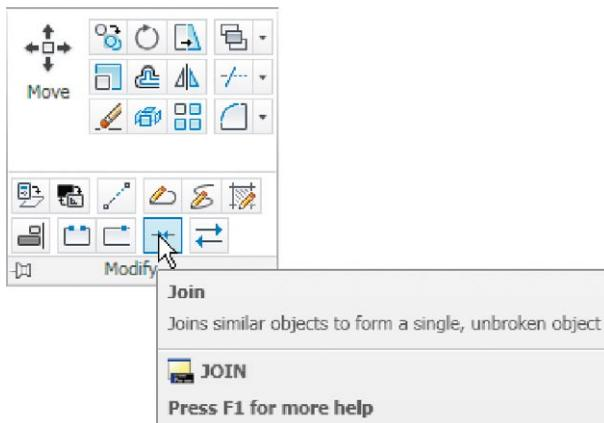

Fig. 5.37 The **Join** tool icon from the **Home/Modify** panel
2. Call the **Join** tool – either *click* the **Join** tool icon in the **Home/Modify** panel (Fig. 5.37), select **Join** from the **Modify** drop-down menu or *enter join* or **j** at the command line. The command line shows: